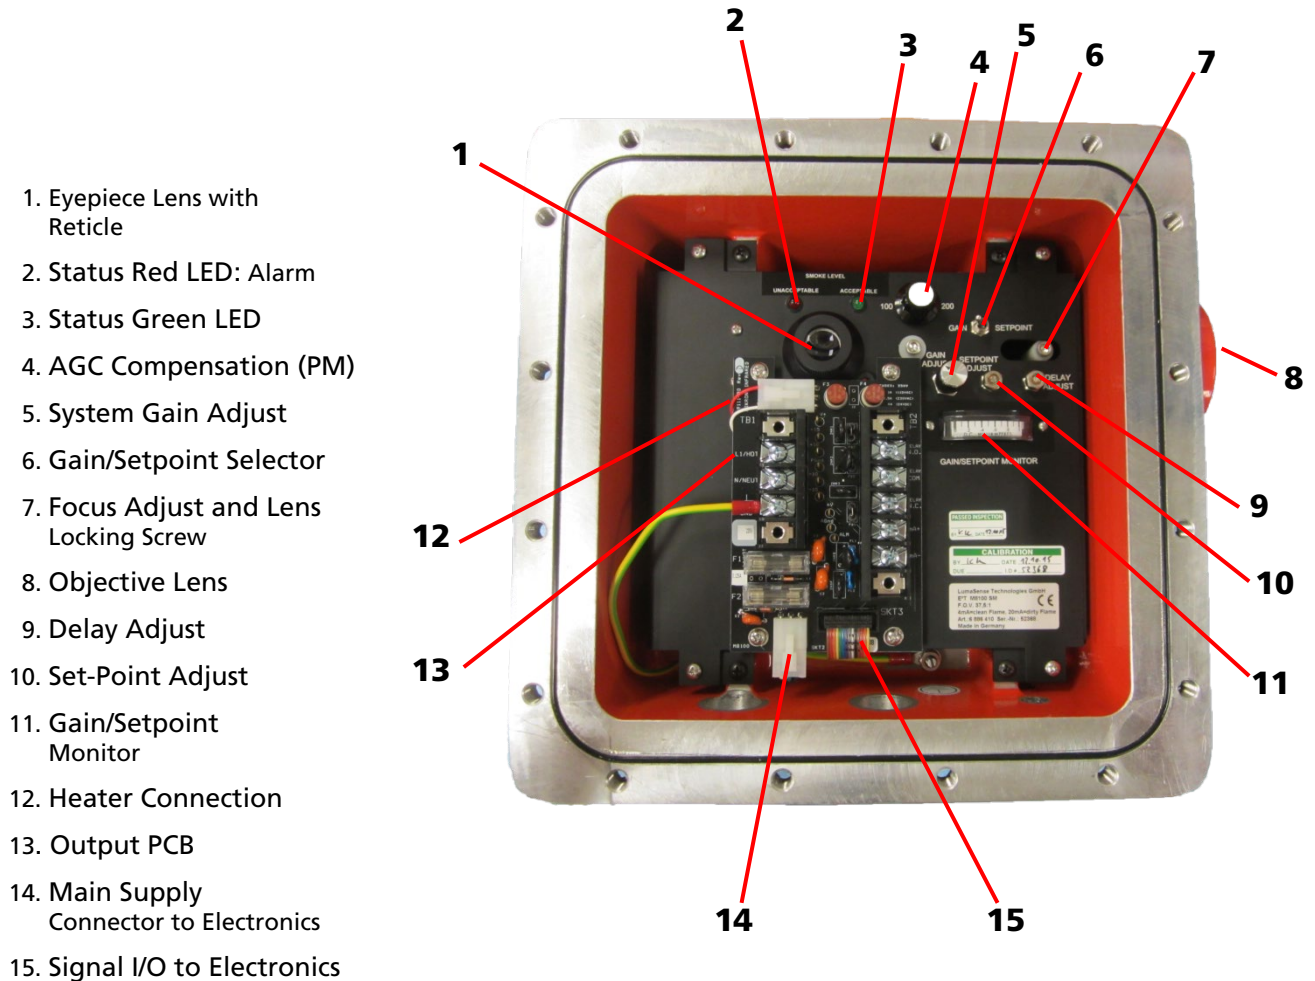
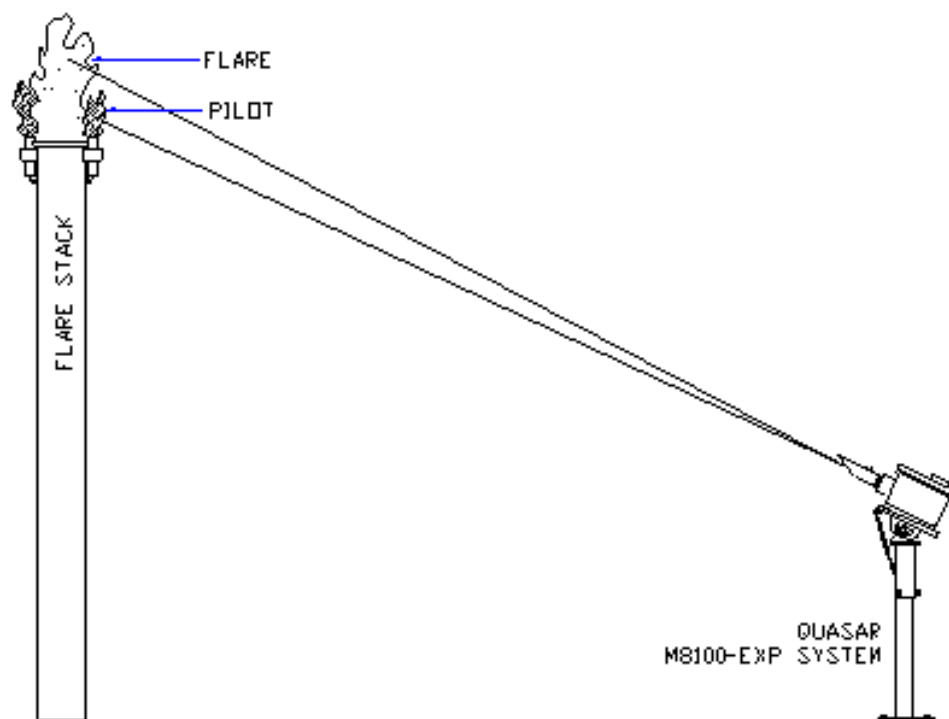

Figure 8: Opto-Electronics Module
Figure 9: Instrument Aiming Concept
Note: Refer to Figure 8: Instrument Aiming Concepts and Figure 9: Opto-Electronics Module for the following start-up procedure.
(Item numbers refer to and Figure 9: Opto-Electronics Module)
Optimize these two gain settings by performing the following (See Figure 9, Opto-Electronics module):
- a. Keep the delay set at the present value and adjust the System Gain (Figure 9, item 5) counterclockwise no more than two complete turns, just until the "chatter" stops. Be sure to keep track of the number of turns. If the chatter stops, proceed to step b. if chatter doesn't stop, proceed to step c.
The Delay Adjust (Figure 9, Item 9) can be configured from 2 seconds (completely counterclockwise) to approximately 2 minutes (completely clockwise). The Delay Pot postpones the Alarm condition once the set-point value is exceeded. This can prevent false alarms from temporary loss of signal due to wind.